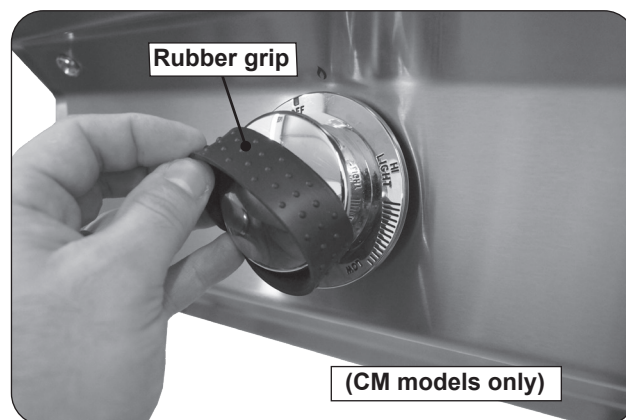

Fig. 29-3 Remove rubber grips (if applicable)
2. For CM models, remove the rubber grip from the control knob (see Fig. 29-3).